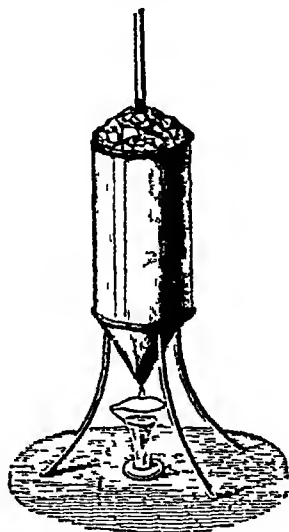

FIG 6
**I THE FREEZING-POINT** — Clean snow or well-pounded ice is placed in a vessel (fig 6) The thermometer is inserted, so that it is surrounded, it is left for a quarter of an hour and moved, until the thread of mercury is seen just above the ice, a scratch is then made with a file, this is the freezing-point The water from the melted ice escapes at the bottom